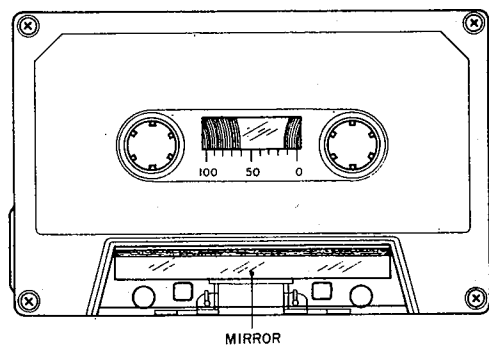

Fig. 22
- 1) When using an ordinary cassette, the tape guides and heads, etc. are not visible. As shown in Fig. 22 use a cassette tape from which part of the cassette case has been cut out and a mirror installed for easy visibility of the head area when making tape guide height adjustment.
4. When a mirror installed cassette test tape as shown in Fig. 22 is required, it can be ordered from AKAI Electric Co.